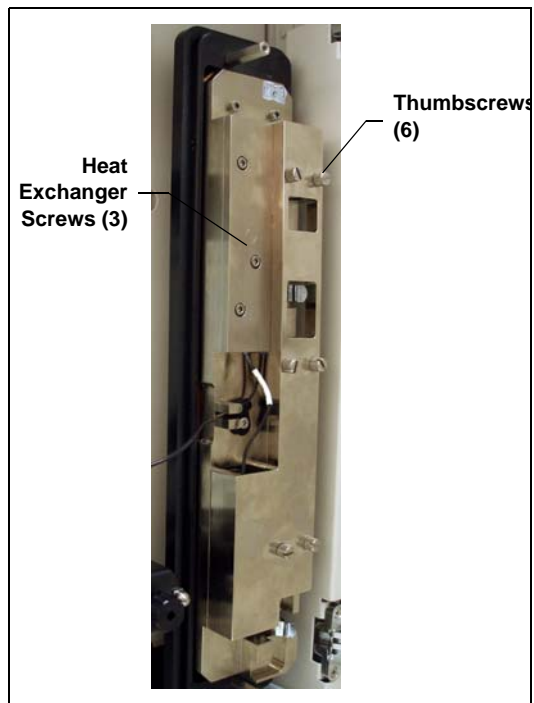

Figure 5-25. ICS-2100 Column Heater Cover Removed
5. Unscrew the six thumbscrews on the top metal plate (see Figure 5-25) and remove the plate.